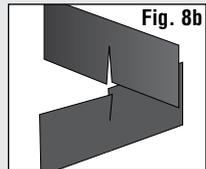

Fig. 8b
- Assemble as shown (**Fig. 8b**).